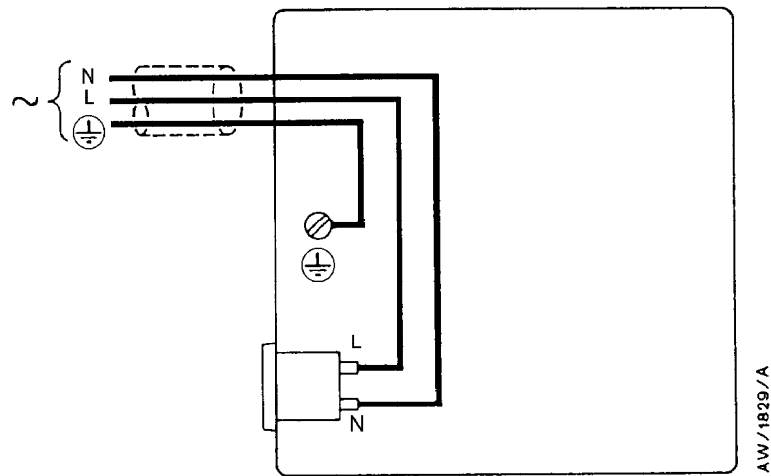

Figure 3 - Electrical supply onnection, single-phase motors, 220-240 V 50 Hz,
8. Connect the electrical supply cable to the appropriate terminals as shown in Figures 3 to 5.